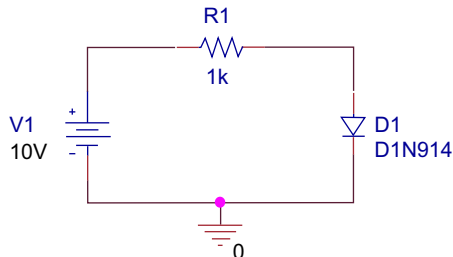

FIGURE 15.11
1. Draw the circuit shown in Figure 15.11. The D1N914 diode can be found in either the diode or eval library.